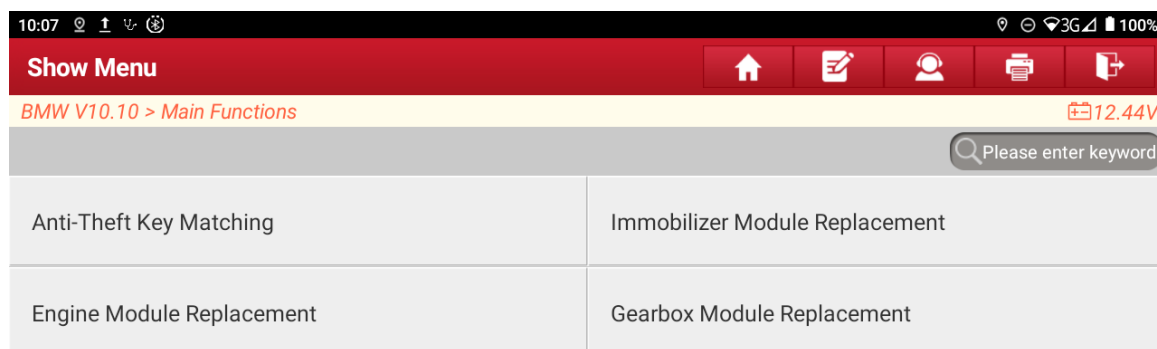

Figure 1
1. Take IMMO Pro as an example, connect the G3 programmer to enter the main page of BMW anti-theft software, and select **【Anti-theft Key Matching】** , as shown in Figure 1.